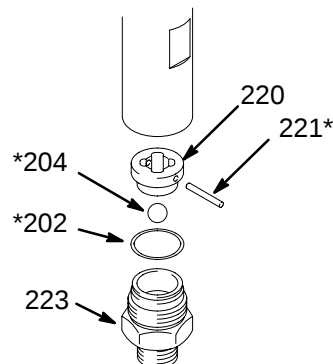

Fig. 25
1. Unscrew the intake valve (223) and remove all parts. See Fig. 25.